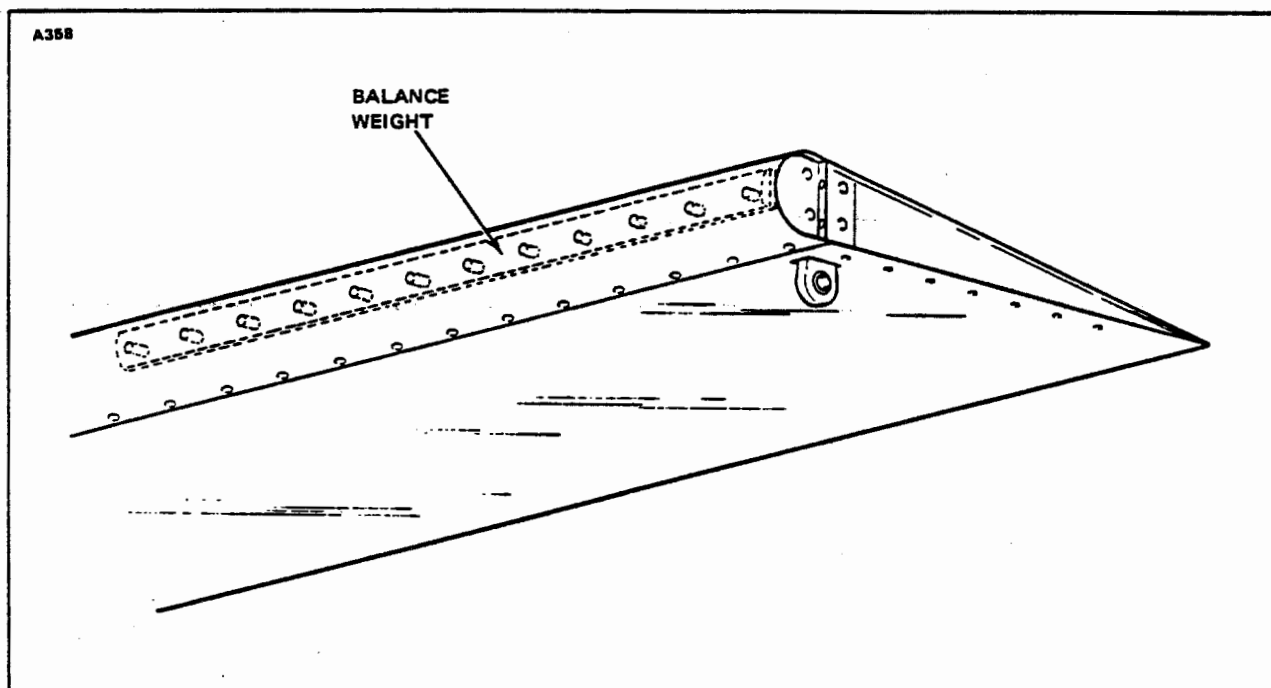

Figure 4-20. Aileron Balance Weight (1974 and 1975 Models Only)
- b. **Trailing Edge Heavy:** It will be necessary to determine the exact cause of the underbalance. If the aileron is too heavy because of paint build-up, it will be necessary to strip all paint from the aileron and repaint. If the aileron is too heavy resulting from repair to the skin or ribs, it will be necessary to replace all damaged parts and recheck the balance. There are no provisions for adding weight to balance weight on 1974 and 1975 ailerons. (Refer to Figure 4-20.)